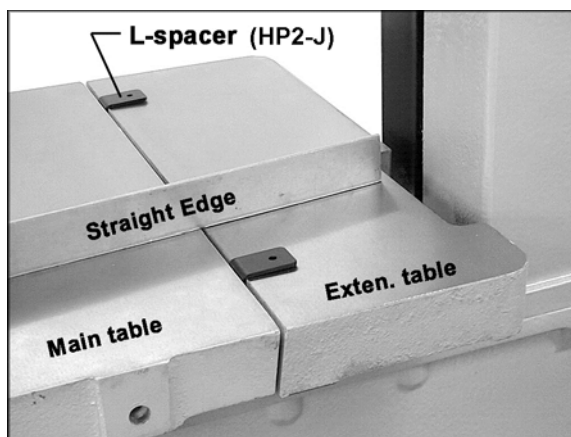

Figure 24
2. Place a straight edge (Figure 24) across both tables, at several points along the tables. If the extension table is not level with the main table, use the level board beneath to achieve this, as follows.
5. Adjust the gap between the extension table and the main table. This gap can be easily set by using the provided *L-spacers (HP2-J)* (Figure 24). Place the L-spacers between the tables as shown, and nudge the extension table toward the main table as far as it will go.